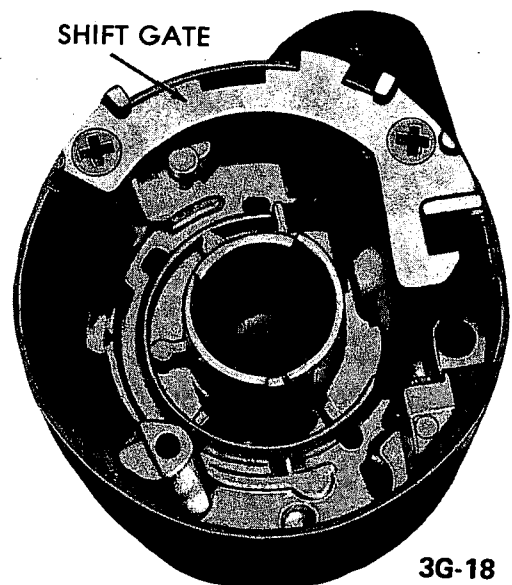

Figure 3G-84 Removing Shift Gate
20. Remove the sector through the lock cylinder hole by pushing firmly on the block tooth of the sector with a blunt punch. See Figure 3G-85.